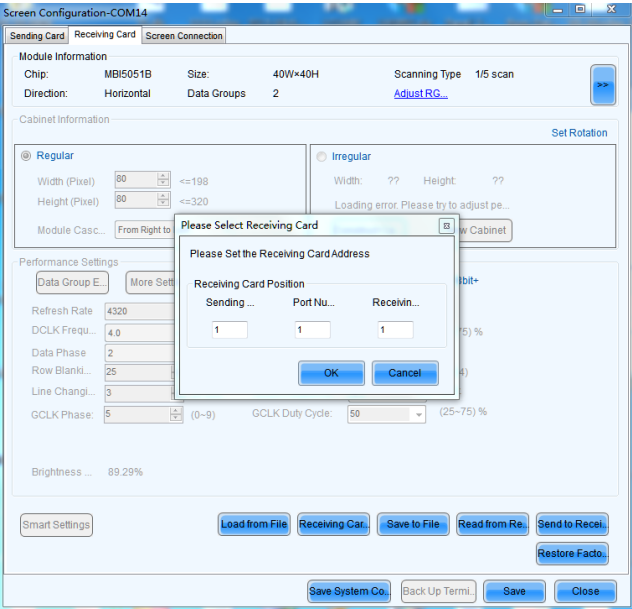

Figure A-2
- b) Select a receiver board which drives same pixels as the replaced one and functions normally, according to its position, input the parameter about sequence number of "Sending ...", "Port Nu..." and "Receining...", then click "OK" to read its data (Figure A-2).